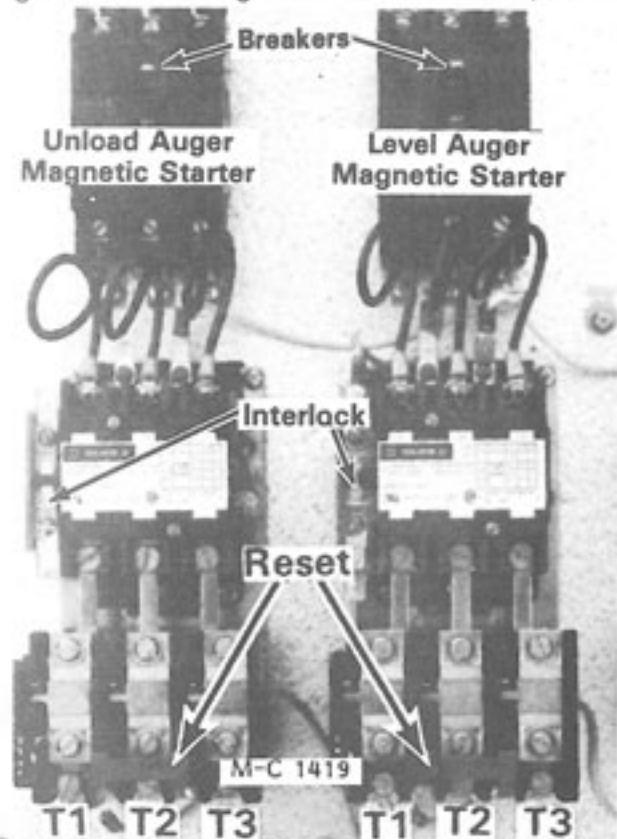

Figure 11 - Level and Unload Auger Magnetic Starters - 3 Phase, 230V
1. Looking at the front of the dryer, the level auger pulley (570) **MUST** turn clockwise and the unload auger pulley **MUST** turn counter-clockwise. If rotation is not correct, it can be changed as follows:
- A. **Three phase motors** - Move the wire from terminal T1 to T3 and T3 to T1 on the magnetic starter in the lower control cabinet. See Figure 11.